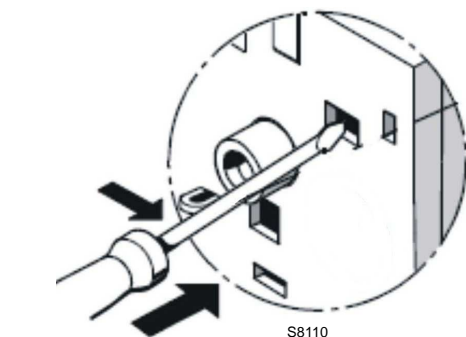

Fig. 41
- **Contact test NC (95-96) and NO (97-98)(Fig. 41)**